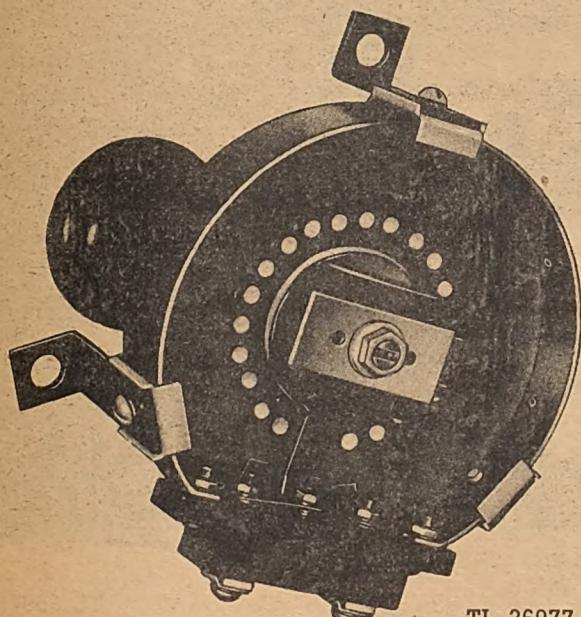

Fig. 325. Exciter Field Rheostat
(11) Assemble the indent wheel or spring stretcher and spring. Slide the shaft out just enough to replace the pin which seats in the counterbore of the indent wheel or spring stretcher.
(12) Assemble the front support and if it is a sustained contact switch, be sure the ball and spring which engage the notches in the indent wheel are assembled before pushing the front support home.
(13) Tighten the tie rods, first making sure the barriers are all properly nested.
j. *Exciter Field Rheostat.* The exciter field rheostat is connected in series with the exciter shunt field and voltage regulator resistance. If the exciter field rheostat is faulty, replace the entire unit. (See Figure 325.)